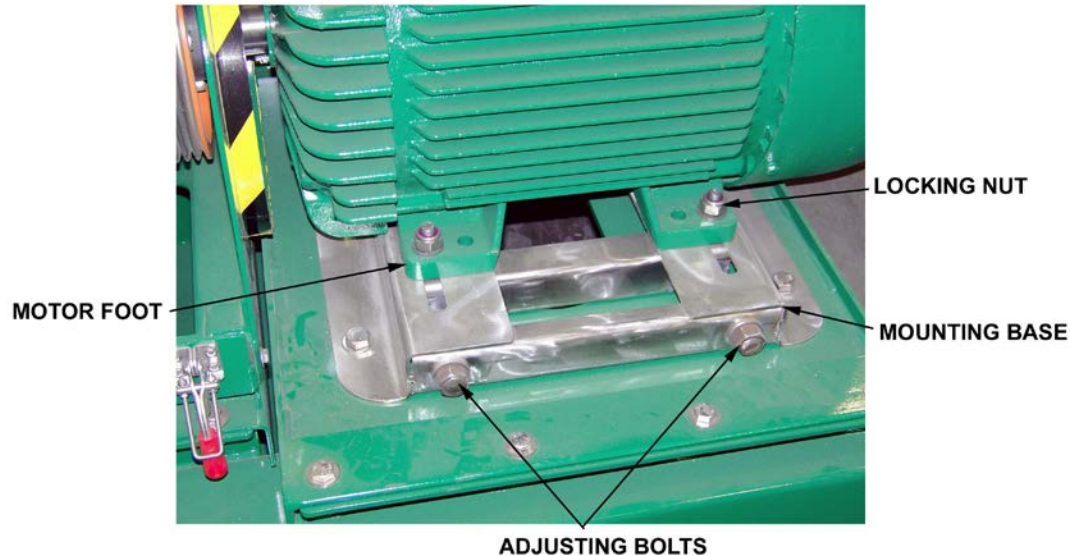

Figure 5-3 Drive Belt Tensioning Adjustment
3. Loosen locking nuts securing drive motor feet to base (Figure 5-3), turn adjustment bolts counterclockwise to loosen belts, and slip belts off sheaves.